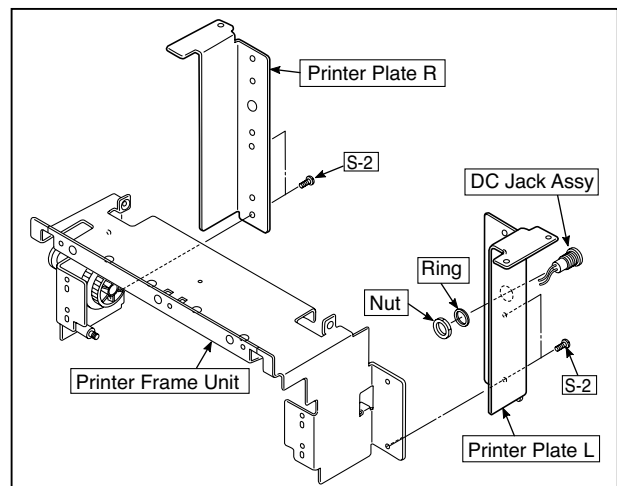

Fig.9
### 8) Remove the Printer Plate (L/R). (See Figs.9.)
- 1.Remove the "S-2" screws shown in the figure 9. and then remove the Printer Plate (L/R).
- 2.Remove the DC Jack Assy installed in a Printer Plate (L).